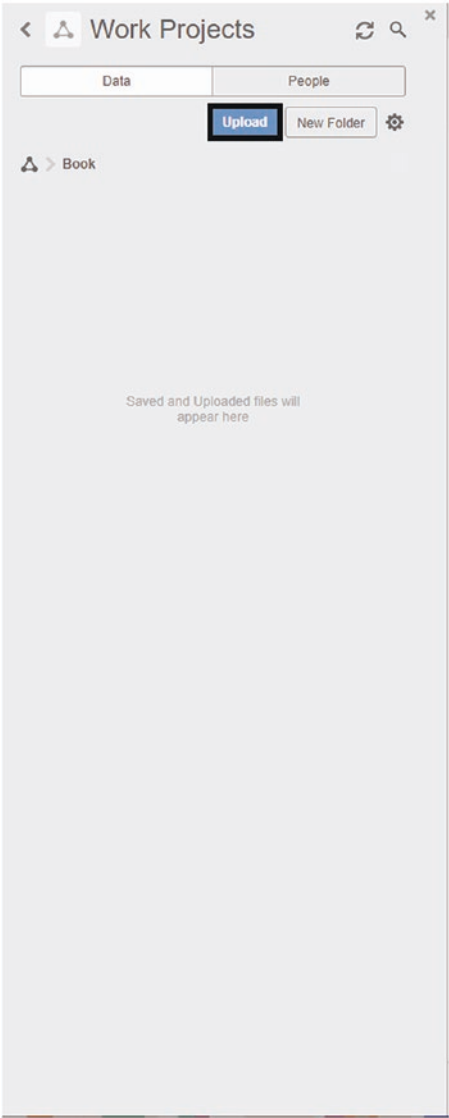

Figure 3-22. *Select Upload*
4. Click the “Upload” button. See Figure 3-22.